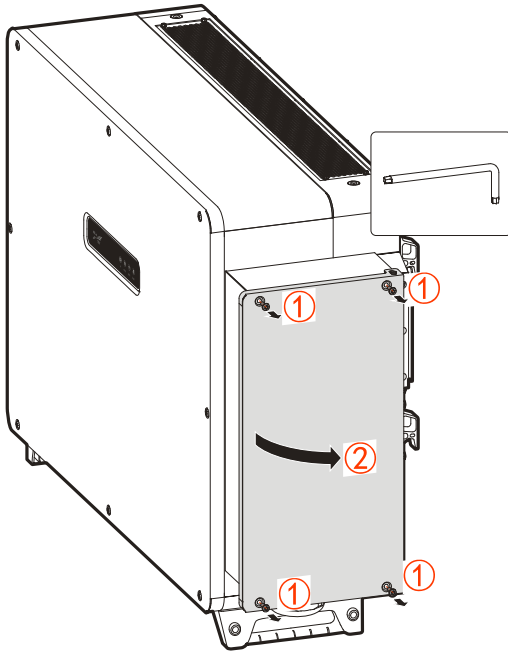

Figure3-30 Open the wiring cover
- Step 1 Open the cover of the right-side wiring box by wrench, as shown in Figure3-30.